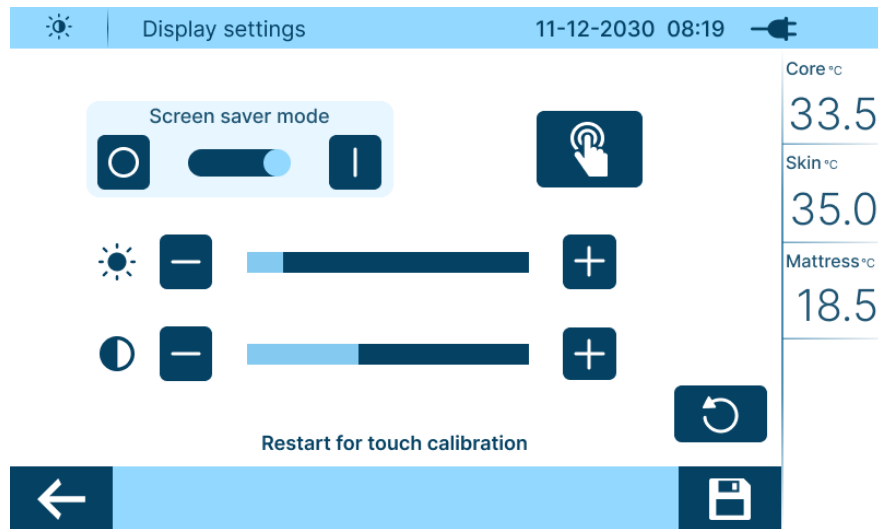

Figure 95: Information to user "Restart for touch calibration"
- After restarting, the touch calibration screen will appear as shown in figure 95.